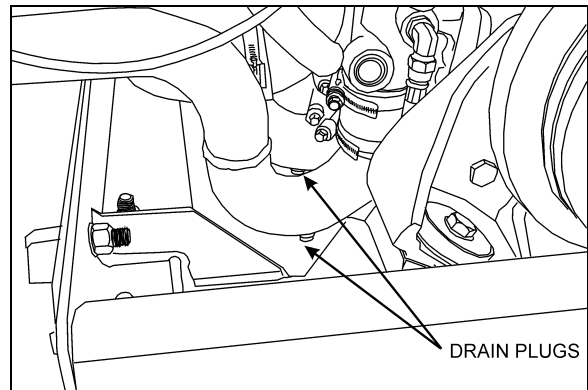

FIGURE 13: DRAIN PLUGS 05093
3. Remove the water pump inlet pipe drain plug, plus the transmission oil cooler delivery line drain plug (Fig. 13). Drain the coolant into an approved container.